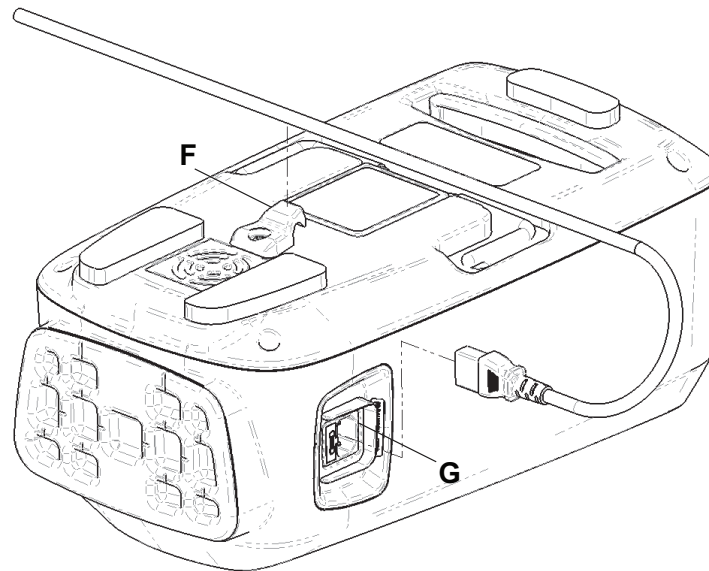

Figure 21 – Insert power cord
5. Remove and save the air filter access door (D).
6. Remove and discard the air filter (E).
7. Install the supplied air filter (E).
9. Insert the power cord under the power cord retention flex grip (F) (Figure 21).
10. Plug the power cord back into the pump (G) (Figure 21).